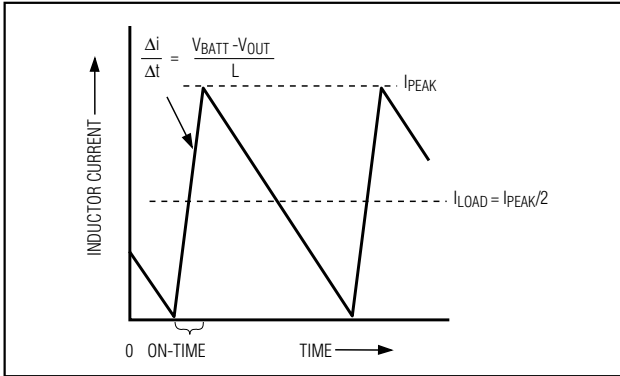

Figure 4. Pulse-Skipping/Discontinuous Crossover Point
where K is the on-time scale factor (Table 4). The load-current level at which PFM/PWM crossover occurs, $I_{LOAD(SKIP)}$, is equal to $1/2$ the peak-to-peak ripple current, which is a function of the inductor value (Figure 4). For example, in the standard application circuit with $V_{OUT1} = 2.5V$, $V_{IN} = 15V$, and $K = 2.96\mu s$ (Table 4), switchover to pulse-skipping operation occurs at $I_{LOAD} = 0.7A$ or about $1/6$ full load. The crossover point occurs at an even lower value if a swinging (soft-saturation) inductor is used.
- 1) Determine the minimum (valley) inductor current (I_{L(MIN)}) under conditions when V_{IN} is small, V_{OUT} is large, and load current is maximum. The minimum inductor current is I_{LOAD} minus half the ripple current (Figure 4).